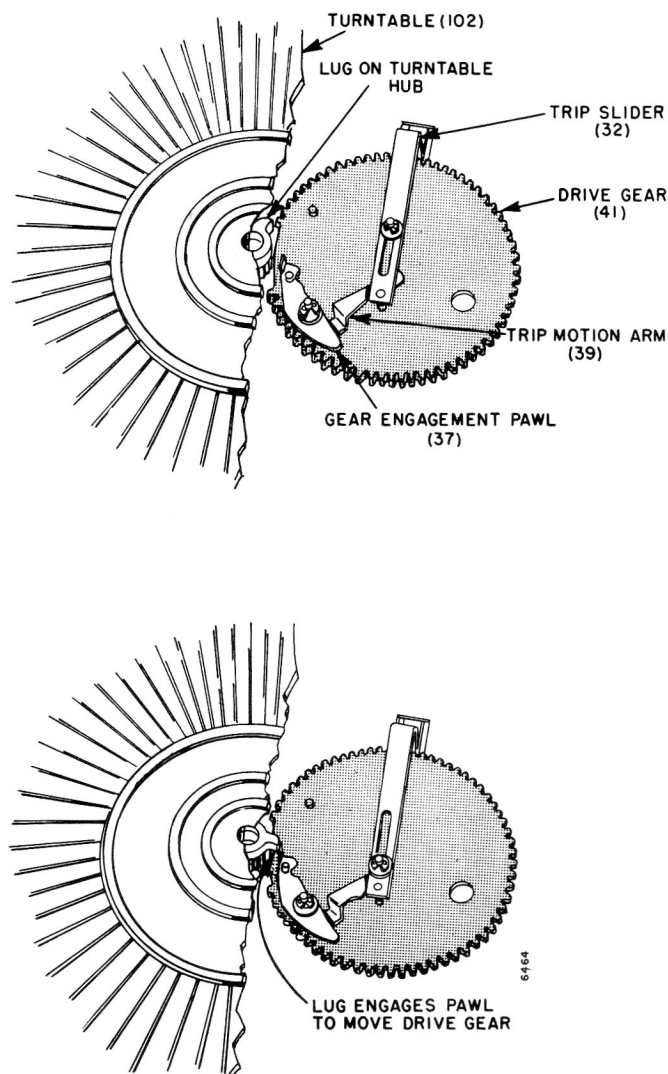

Figure 4. Position of Drive Gear Out of Cycle and at Start of Change Cycle.
This changer employs a velocity trip, consisting primarily of two parts; the trip motion arm (39), and the gear engagement pawl (37). These parts are mounted near the "dead spot" on drive gear (41). See figure 4.
This rapid movement only occurs when the trip slider (32) is moved rapidly, by the tone arm, as the needle enters the trip grooves of the record. The gear engagement pawl (37) then moves in front of and engages the lug on the turntable hub. This causes the drive gear (41) to be rotated far enough so that the teeth on the drive gear will engage the teeth on the turntable hub, starting the change cycle. See figure 4.